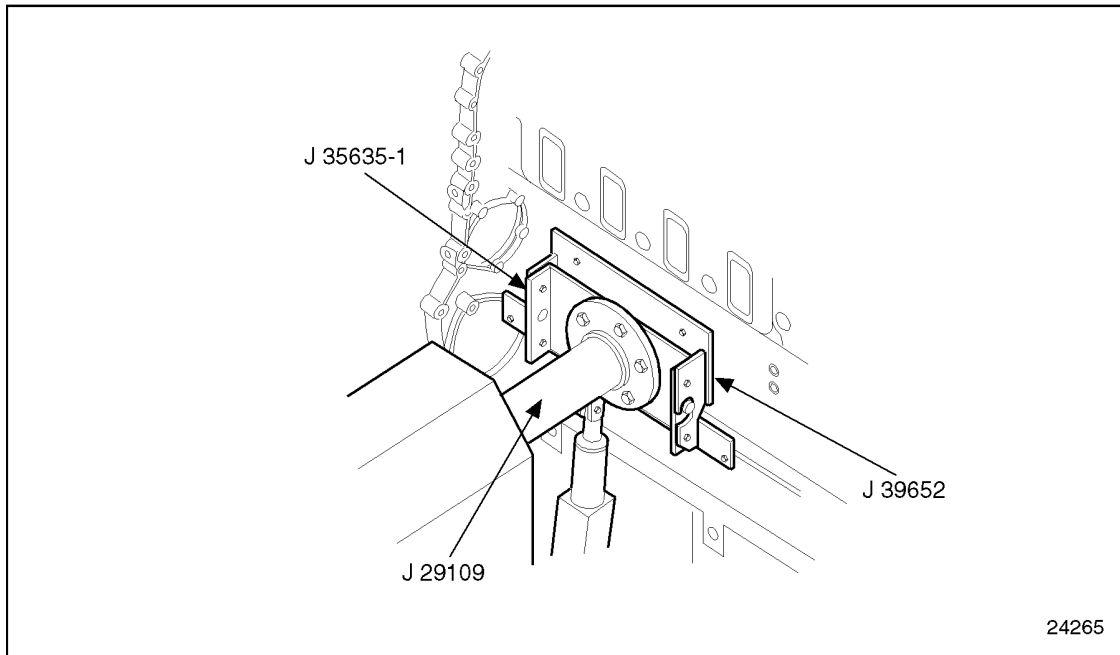

Figure 1-7 Cylinder Block Adaptor
18. Bolt cylinder block adaptor, J 35635-2 part of J 35635-A, to the cylinder block and mate it with the stand adaptor, J 39652. See Figure 1-7.